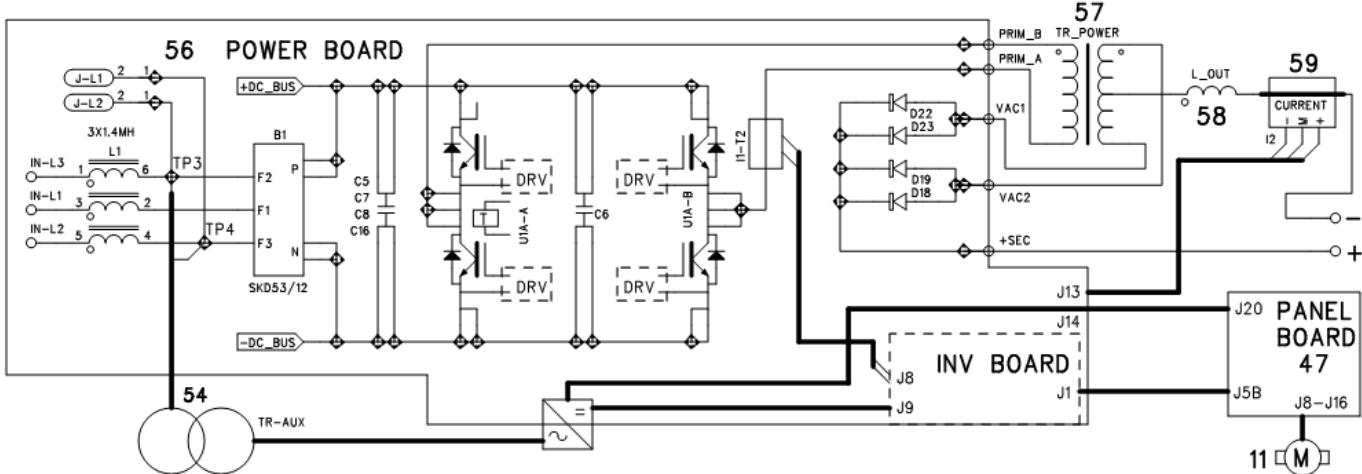

Fig. 2.3.1 (art. 386/388)
More precisely in the power board (56) they can be identified (Fig. 2.3.1):
- the igbt inverter, that generates the square wave alternated voltage for the "TR\_POWER (57)" power transformer;
- the TA, T2, for the relief of the power transformer (57) primary winding current;
- the rectifier bridge of the power transformer (57) secondary current.